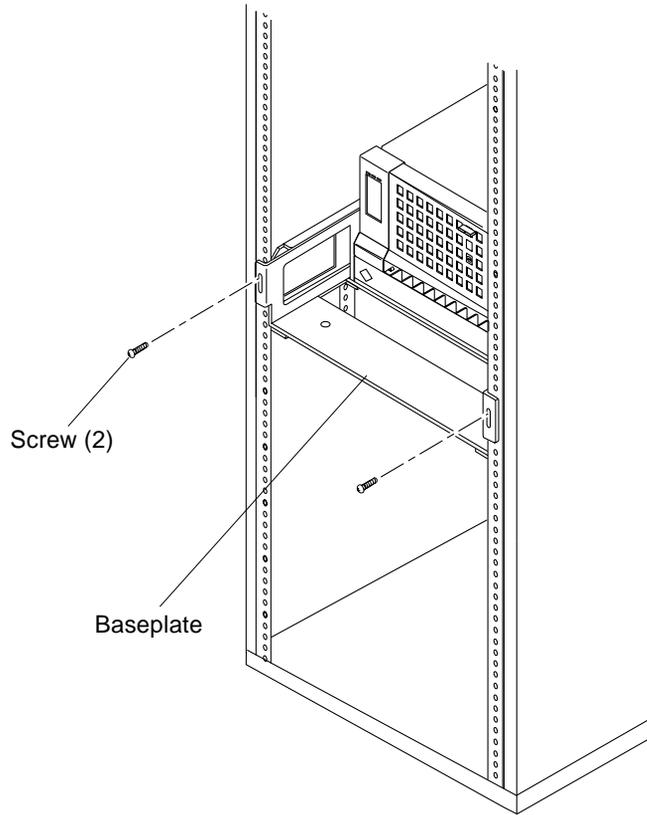

FIGURE 9-23 Removing the Screws Securing the Baseplate to the Side Brackets
4. Remove the locking screws from the front of the disk array (FIGURE 9-23).
3. **Replace the locking screws securing the front of the disk array (FIGURE 9-23 on page 9-37).**